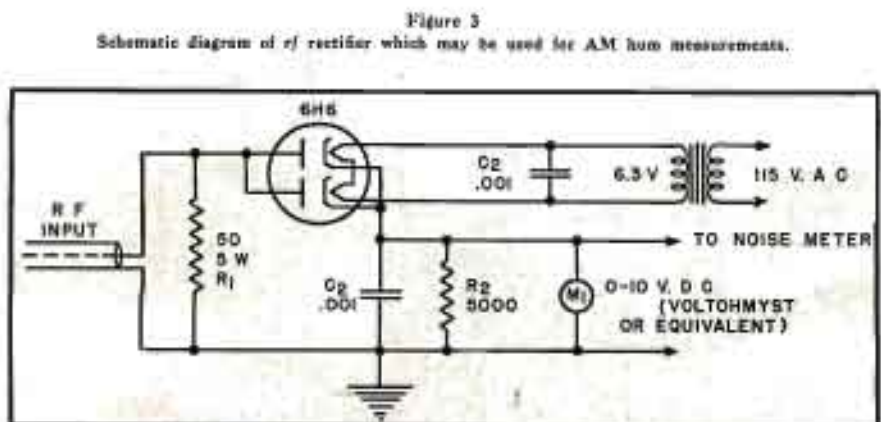

Figure 3
**1d) RF Rectifier:** Since most commercial FM modulation monitors do not have built-in diode detectors, some form of detector or rf rectifier is required in order to measure the amplitude modulated noise on the carrier. A schematic diagram of a suitable rectifier is shown in Figure 3. Since all of the components of this rec-